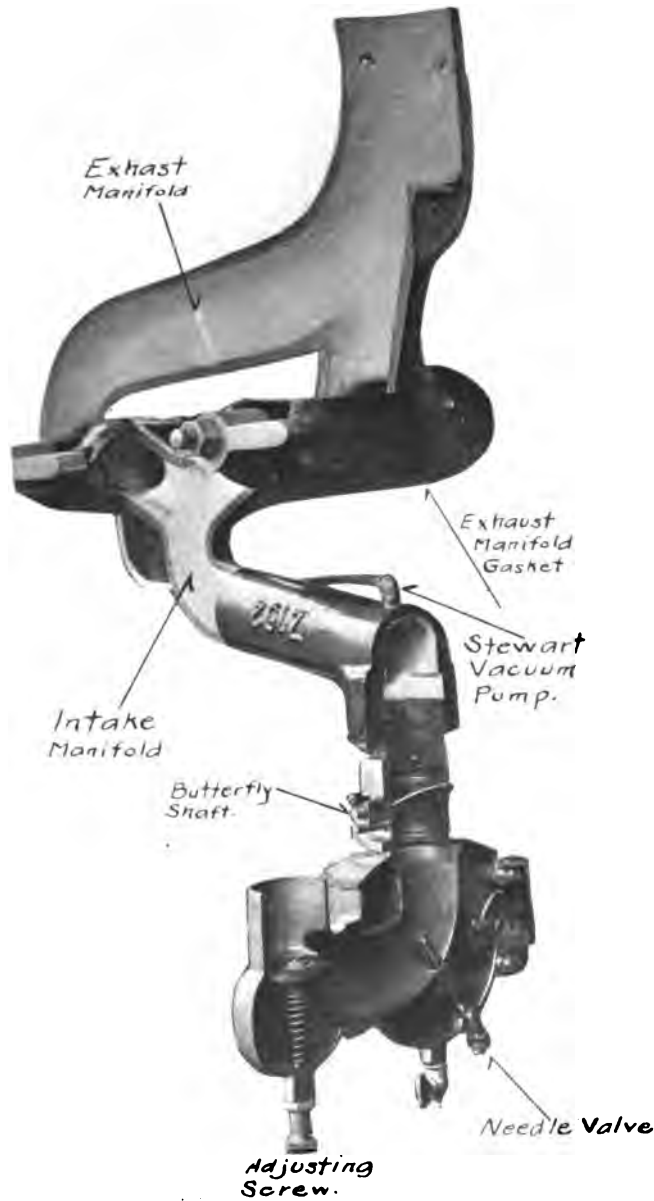

Fig. 18.
- 159 — Fig. 18 shows a cut-away section of the carbureter, intake and exhaust manifold on the 45 engine with the various parts indicated.